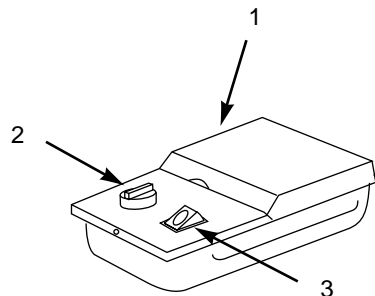

Figure 13
**Genesis 4 models (Figure 13):**